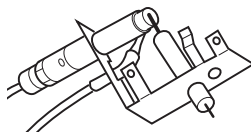

Figure 19 - Pilot
8. Light pilot burner with a match, (see Figure 19, page 19).